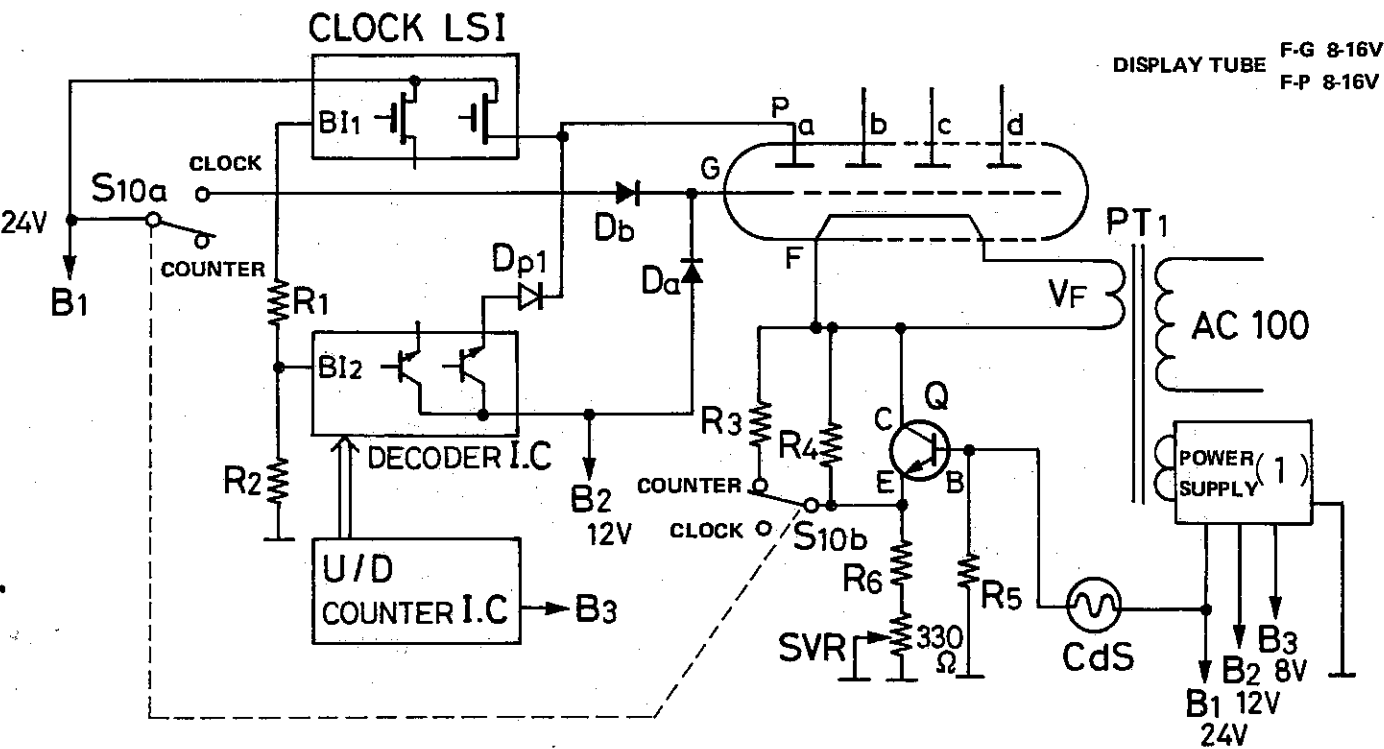

Fig. 7
As is clear from Fig. 7, the output from the decoder IC is connected to the LSE output through a diode (Dp), and then both outputs are supplied to each of the segment plates (P) of the display tube. Switching of display is done by the switch S10a, which closes, alternatively, on the clock side and the counter side, and supplies a voltage of 24V to the blanking (B1) terminal of each IC. The output of the clock LSI is turned ON when 24V is applied to the BI₁ terminal, and the clock LSI will present a high impedance when BI₁ is at a potential of 0V.
In Fig. 7, the switch S10b is interlocked with S10a. When the switch is closed on the counter side, R3 will be grounded, and the 330Ω resistance of SVR will be connected in series with the transistor Q. This causes a voltage of about 10V to be applied between P and F of the display tube, and makes it operate in a normal way. At this time, +B1 is applied to Q through CdS, so that the working resistance across C and E of the transistor can be varied with the base voltage, that is, with the amount of photo-resistance presented by CdS. This working resistance across C and E, as a composite resistance in parallel with R3, will change the voltage between P and F of the display tube to vary its brightness. When S10b is closed on the clock side, all the voltage will be applied across the transistor Q, and the voltage between P and F of the display tube will be reduced to somewhere between 10V and 12V, thus making the tube operate in a normal way. Of course, this voltage varies between 3V and 14V depending on the brightness of the environment. R4 is inserted in the circuit in order to ensure a minimum amount of brightness even when the CdS receives no light.